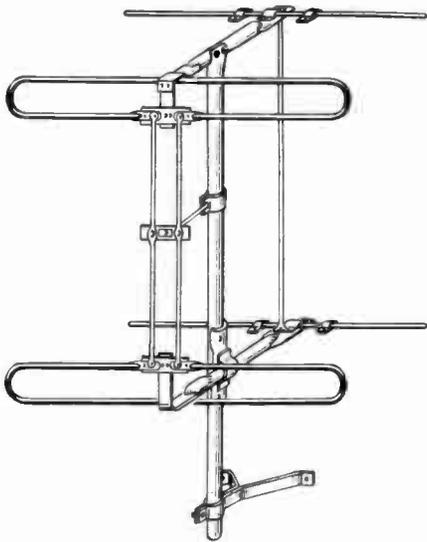

Fig. 6 This Taco 495 is a combination broadside and parasitic high band array type
2. *Stacked or broadside arrays.* The front portion of the antenna of Fig. 2 is an example of a stacked array. In this type, all the elements are connected either directly or indirectly, through transmission lines, to the feed line. The spacing of the elements and the length and arrangement of the line connecting them are designed to give currents in the elements a phase relation which increases their receiving sensitivity. In television arrays the elements are ordinarily half-wave long for some middle frequency of the range, and are spaced from about an eighth wave to about a half wave length apart. The half wavelength spacing gives better gain, but for the lower frequency range is usually considered too bulky. In high band arrays, however, half-wave spacing is generally used, as illustrated in the antenna array of Fig. 6.
Although the front portion of the array of Fig. 2 is of the stacked type, it is also equipped with reflectors, which are of the parasitic type, making this antenna a combination type, as is also the example of Fig. 6.